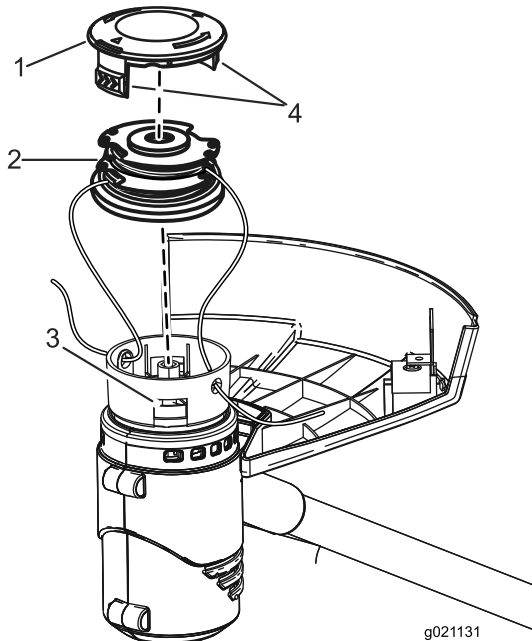

Figure 19
2. Push in the tabs on the side of the spool retainer (Figure 19).
2. Remove the spool. See Replacing the Spool (Figure 19).